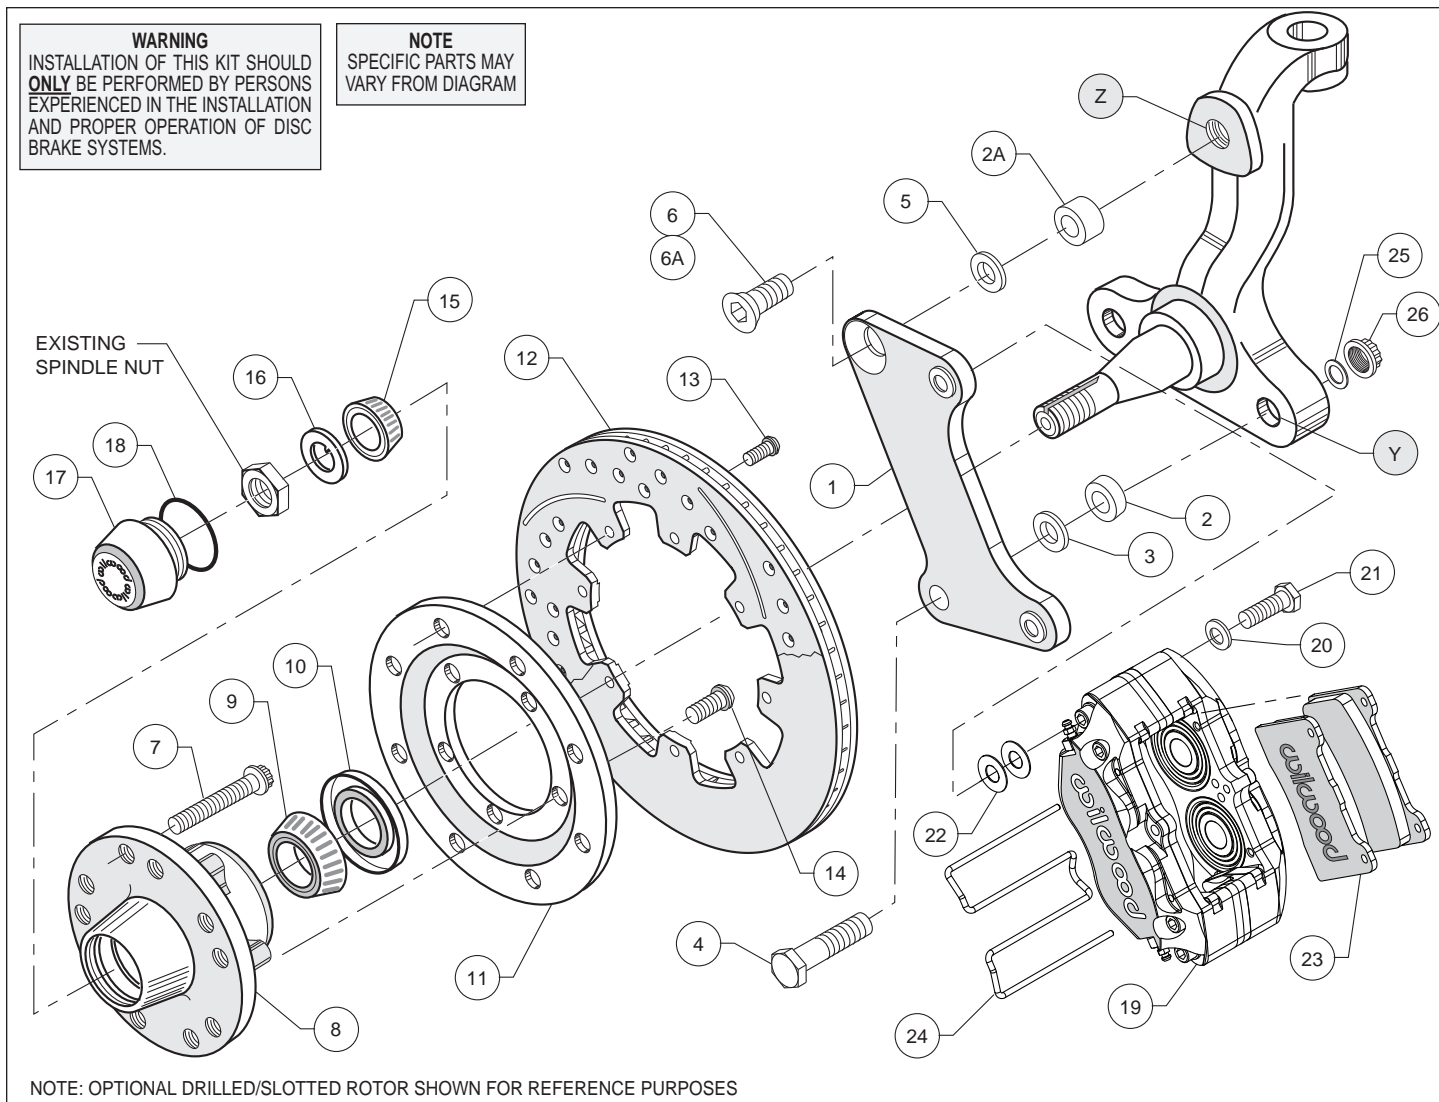
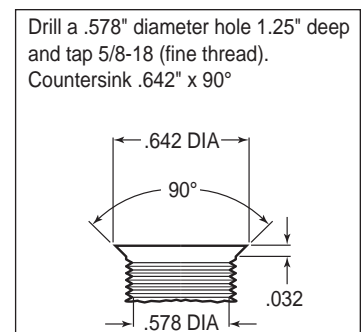
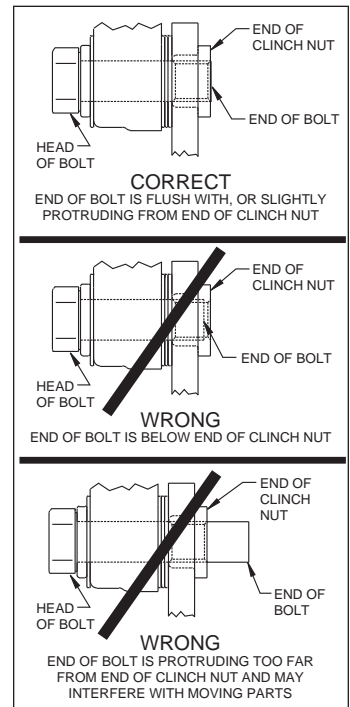

Figure 1. Typical Installation Configuration
Figure 3. Drill and Tap Detail
Figure 4. Clinch Nut Engagement Diagram
CAUTION: All mounting bolts must fully engage insert nuts. Be sure to check that all bolts are either flush or protruding through flanged side of insert nut after shimming, Figure 4.
•**NOTE:** 1964-66 spindles may require the following modifications (reference Figure 1 and Figure 3): Top anchor pin hole (Z) must be drilled and tapped to the dimensions as outlined in Figure 3. Bottom rear steering arm bolt hole (Y) in the spindle and steering arm must be enlarged to .50" by drilling. A 1/2-20 backing nut (not supplied in kit) will need to be acquired to torque bracket / steering arm bolt (supplied in kit).
•Install wheel studs (7) into the hub (8), Photo 1. Torque to 77 ft-lb. **NOTE:** There are two five lug patterns in the hub (5 x 4.50 and 5 x 4.75). Ensure the correct hub stud pattern is being used to fit the wheel application.
•Pack the large inner bearing cone (9) with high temperature disc brake bearing grease (available from your local auto parts store) and install into the backside of the hub (8), Photo 2.
•Install the grease seal (10) by pressing into the backside of the hub (8), flush with the end of the hub, Photo 2.
•Orient the rotor (12) and the rotor adapter (11) as shown in Figure 1 and Photo 3. Attach the rotor to the adapter using bolts (13). Using an alternating sequence, apply red *Loctite*® 271 to the threads, and torque to 25 ft-lb.
- Mount the adapter/rotor assembly (11/12) to the hub (8) using bolts (14), as shown in Figure 1 and Photo 4. Using an alternating sequence, apply red *Loctite*® 271 to the threads, and torque to 45 ft-lb.
- Attach caliper mounting bracket (1) to spindle face using lower bolt (4), and a .090" thick spacer (2) positioned between the bracket and the spindle face, as shown in Figure 1. Secure bolt on the backside of the steering arm with washer (25) and lock nut (26). Finger tighten. Install upper bolt (6) (for drum spindle) or bolt (6A) with spacer (2A) between bracket and spindle (for disc brake spindle). Ensure that the flanged heads of the clinch nuts in the bracket are facing outboard. Temporarily tighten the mounting bolts and install the new hub/rotor assembly (8/12). Check that the bracket is aligned parallel to the rotor, Photo 5. If not, adjust by adding shim washers (3 and/or 5) between spacers (2 and/or 2A) and the bracket, Figure 1. Once the bracket alignment is correct, remove the upper bolt (6 or 6A), apply red *Loctite*® 271 to bolt threads, and torque to 120 ft-lb. Torque lock nut (7) to 65 ft-lb.
- NOTE:** Please reference the caution statement at the beginning of the assembly instructions. Mount the caliper (19) onto the caliper bracket (1) using washers (20) and bolts (21), as shown in Figure 1. Initially place two .035" thick shims (22) on each bolt between the caliper and the bracket, Photo 8. Temporarily tighten the mounting bolts and view the rotor (12) through the top opening of the caliper. The rotor should be centered in the caliper, Photo 9. If not, adjust by adding or subtracting shims between the bracket and the caliper. **NOTE:** The end of the bolt must be flush with or slightly protruding from the head of the clinch nut. See Figure 4. Place spare shims (22) between washer and caliper mounting ear to achieve the proper mounting fastener configuration. Always use the same amount of shims on each of the two mounting bolts. Once the caliper alignment is correct, remove the bolts one at a time, apply red *Loctite*® 271 to bolt threads, and torque to 40 ft-lb.